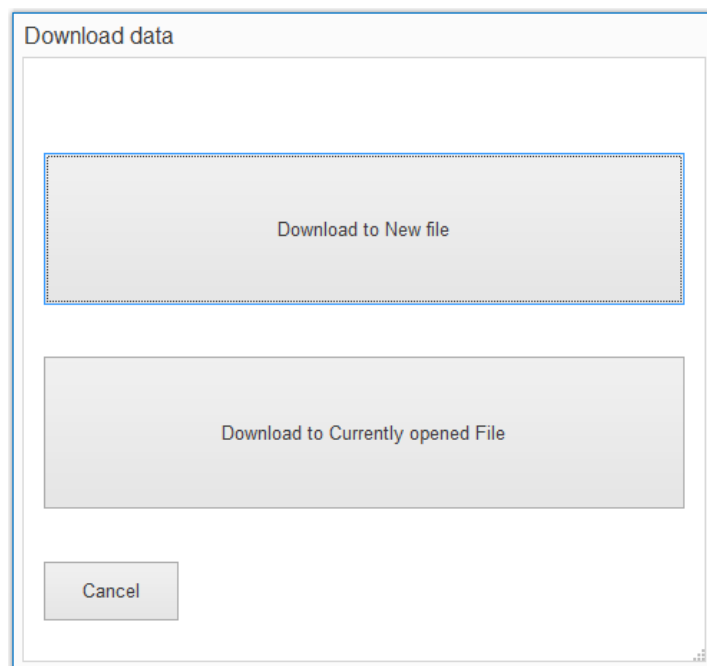

Figure 7.7: Paste as same confirmation information window
- User is prompted to select next paste command step, **Figure 7.7:**